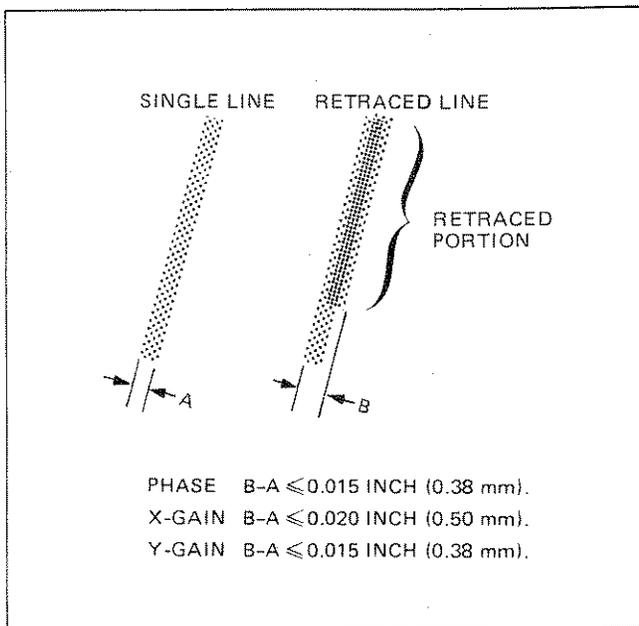

Figure 5-7. Phase and Gain Adjustment
- i. The width of the retraced line shall be no more than 0.015 in. (0.38 mm) wider than the single line. (See Figure 5-7.)
i. The retraced line shall be no more than 0.02 in. (0.50 mm) wider than the single line. (See Figure 5-7.)
b. The retrace line shall be no more than 0.015 in. (0.38 mm) wider than the single line. (See Figure 5-7.)